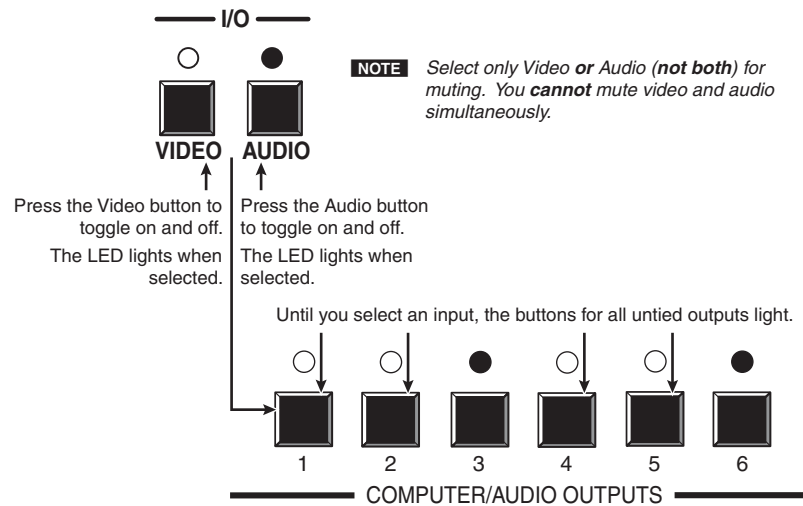

Figure 3-34 — Select video and audio
3. To select either video or audio for viewing and muting, if necessary, press and release the Video button and the Audio button until one or the other is lit (figure 3-34).